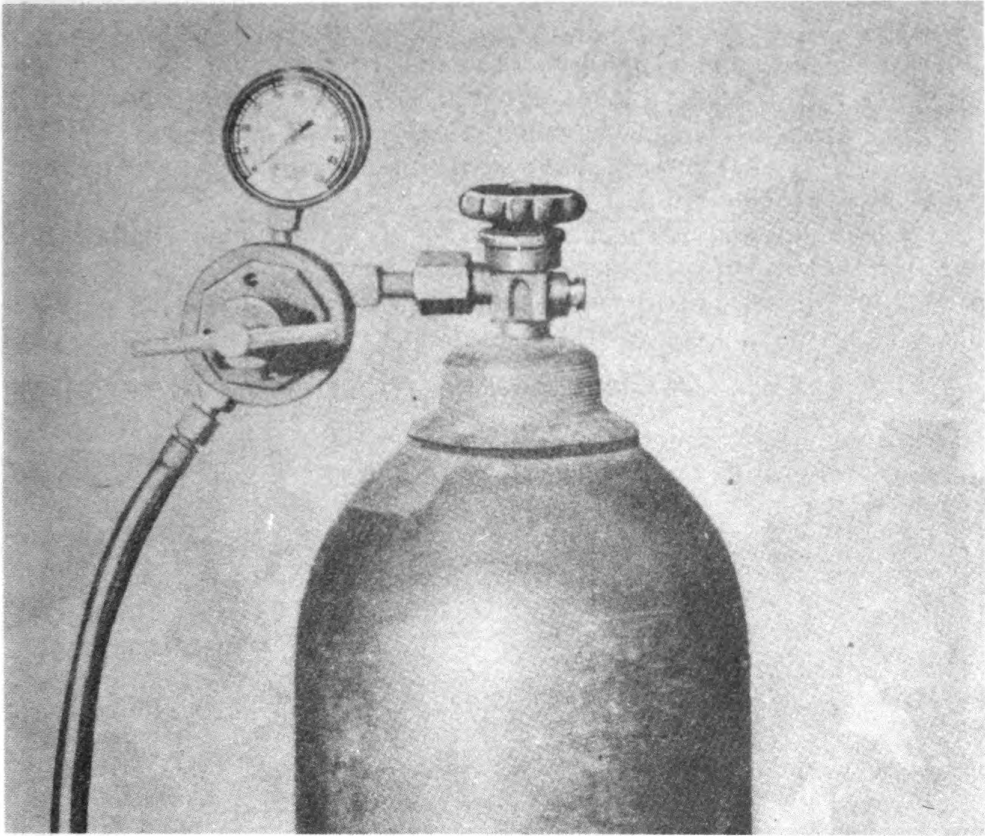
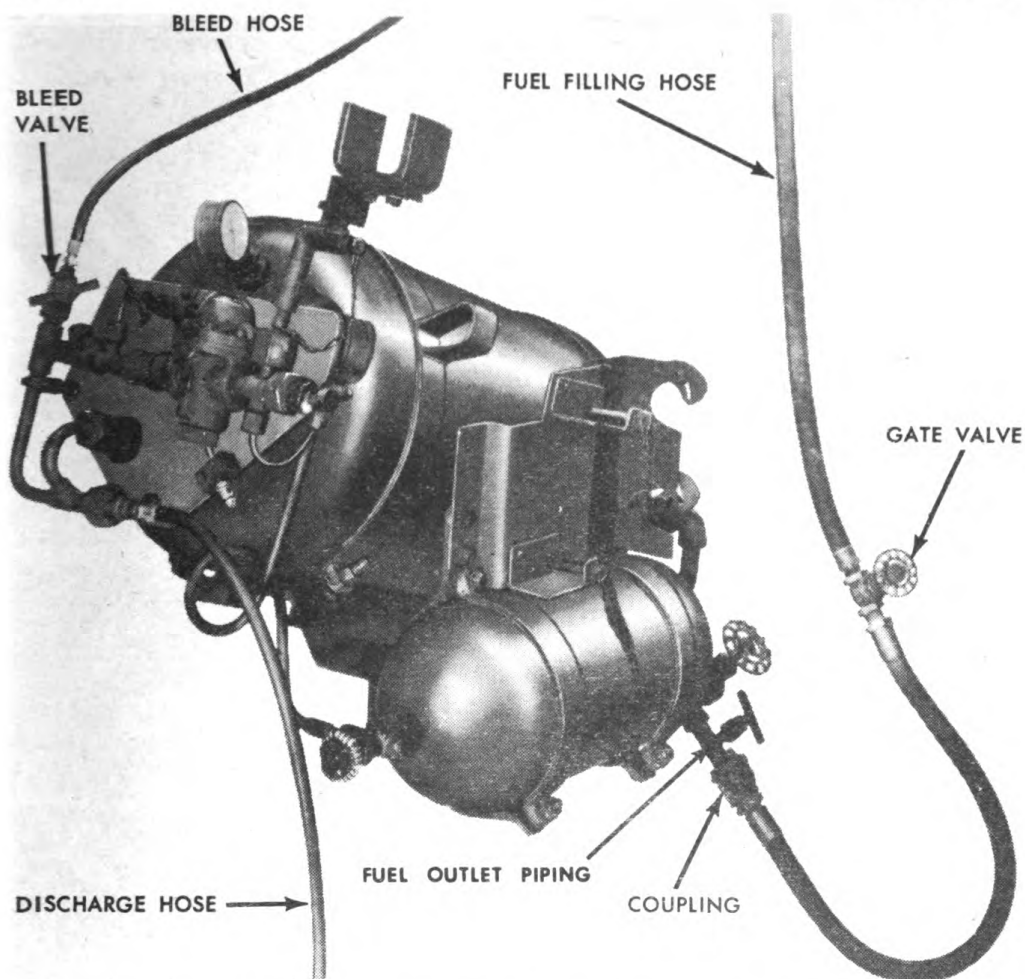

Fig. 113. Pressure hose and pressure regulator connected to cylinder.
Fig. 115. Fuel filling line connected to transmission fuel group. This set-up is the same for the sponson fuel group.
b. Procedure. (1) Connect source of pressure, drum of fuel, fuel filling line, pressure hose, and other parts as shown in figures 113 and 114. Use threaded adapters, as necessary, to fit lines to the drum. Make all threaded connections tight by use of wrenches on joints. Lay drum on its side on ground or platform. Stand pressure cylinder upright. Place drum so that opening to which fuel filling hose is connected is close to ground or platform.
(2) Place gate valve end of fuel filling hose in assistant driver's door.
(3) Connect end of fuel filling hose to coupling at end of fuel outlet piping (fig. 115).
(4) Close blow-off valve.
(5) Disconnect bleed hose from blow-off valve and lay end on top of vehicle through assistant driver's door. Be sure other end of bleed hose remains connected to the bleed valve.
(6) Station one man in assistant driver's seat, one man at pressure